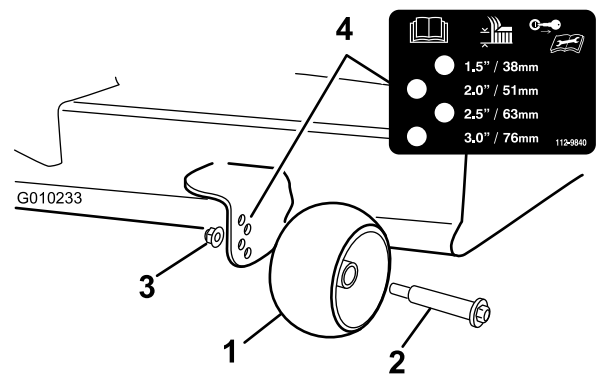

Figure 25
3. Adjust the anti-scalp rollers (Figure 25) to match the closest height-of-cut position.